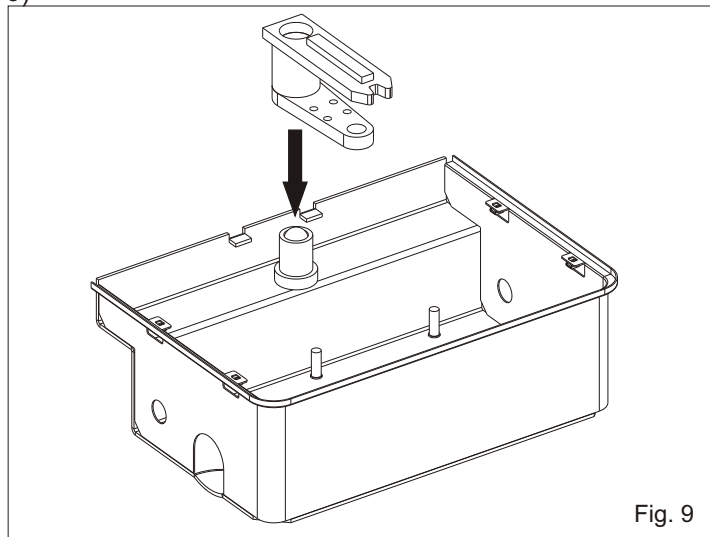
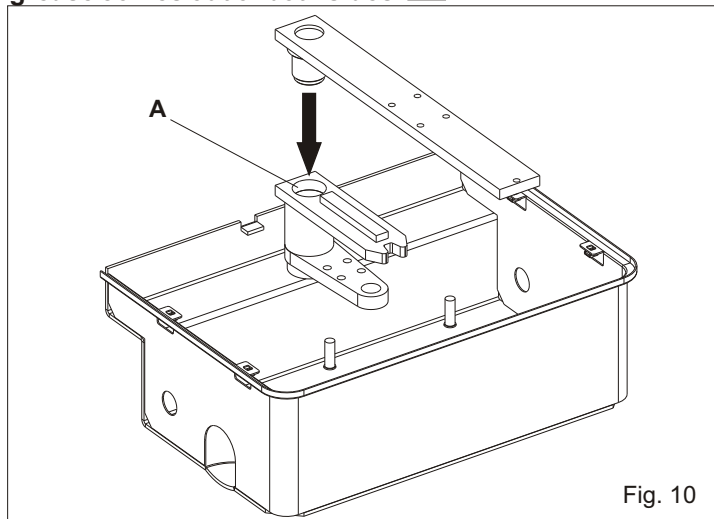

Fig. 9
Fig. 10
2.5. Insert the handle bar device into the perforated shaft (Fig. 9)
2.6. Grease plentifully the hole A and insert the leaf device (Fig. 10)
**N.B.: During the insertion of the units lubricate them with the supplied grease (Fig.8, Fig.9, Fig.10).**